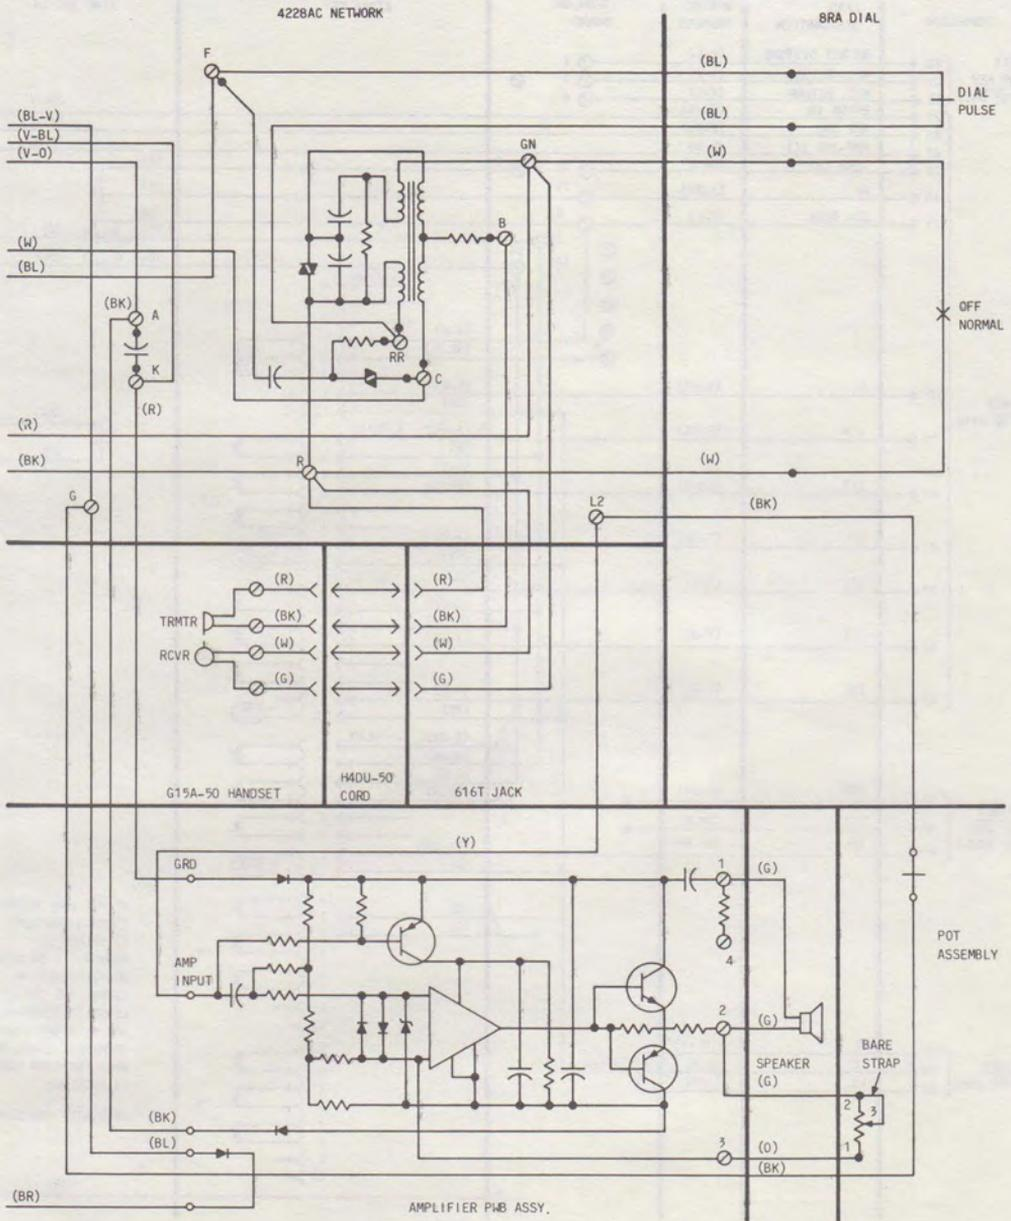

Fig. 6—853AM Telephone Set, Connections (Sheet 2 of 2)
4.03 For connections, refer to Fig. 6 and 7. For the third intercom line (used in COM KEY 2152 communication system) connect as shown in Note, Fig. 6 or 7.